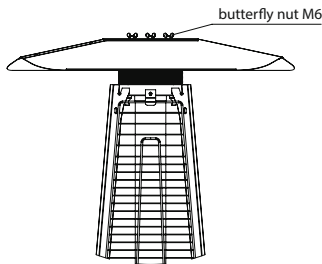

Fig.16 - Installing the visor
- Install a visor on the afterburner, fasten the visor on stainless steel M6 butterfly nuts (Fig. 16);